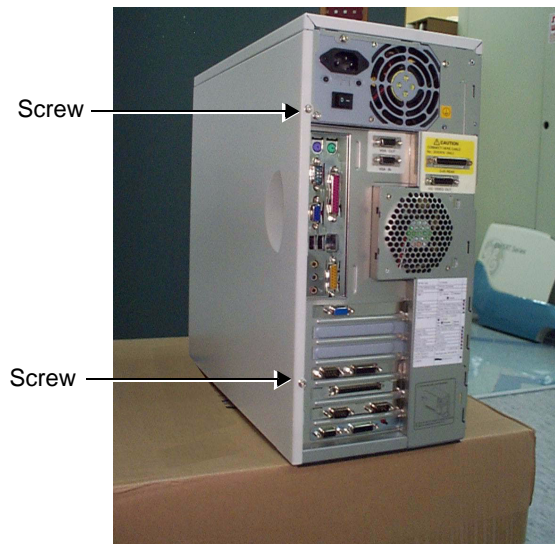

Figure 8-59 Side Cover - BEP2
- 1) Remove the two screws (that secure the side cover in position) from the rear of the BEP (see Figure 8-59 below).
- 2) Replace and tighten the two screws to hold the cover firmly in position (Figure 8-59 "Side Cover - BEP2" on page 8-64).